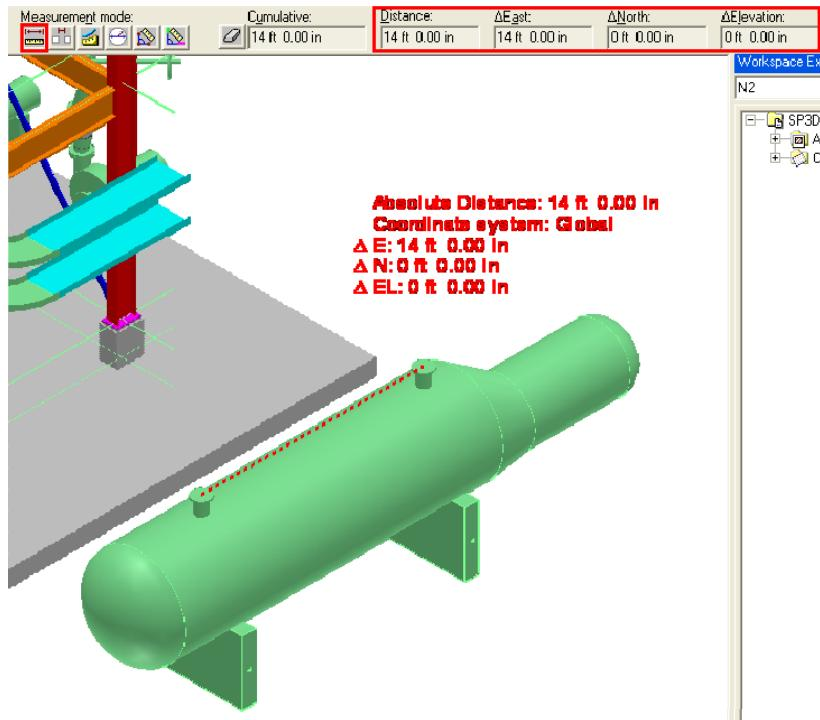

Figure 4: Distance Measured Between Two Nozzles
- **Measure Distance Between 2 Points:** Use the **Measure Distance Between 2 Points** command from the **Measurement** ribbon, to measure distance between, for example, the tank discharge centerlines. Locate the two nozzles of the tank. The absolute distance between the two points and the distance along the active coordinate system axes will be displayed on the **Measurement** ribbon as well as on the graphic view, as shown in figure 4.